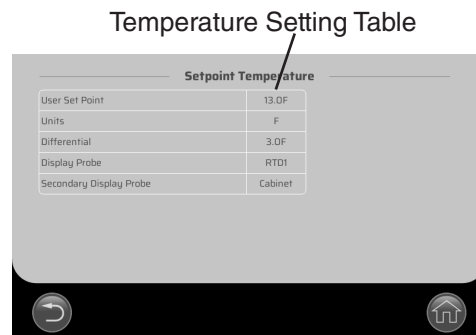

Fig. 4
- Press and release the center of the RTD1 probe temperature display. The temperature setting table is shown. See Fig. 4.